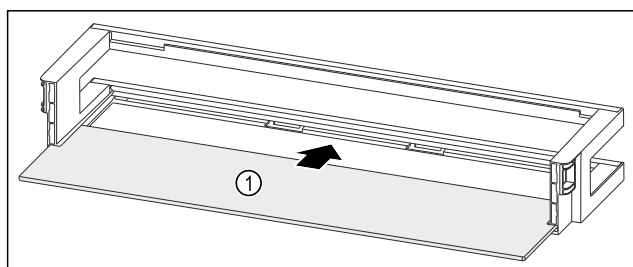

Fig. 139 Door rack with shelf
- ▶ Push the shelf Fig. 139 (1) into the side recesses.